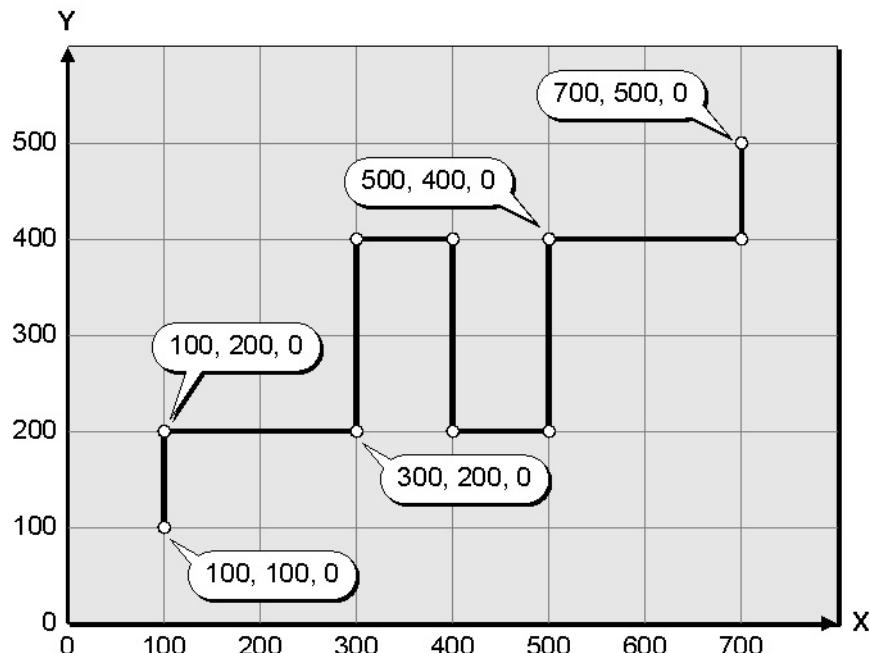

Figure 12-12. A geometry formed from a series of straight line segments.
Every item in a points array is defined by three parameters. The first two parameters specify the X and Y coordinates of the point, while the third parameter defines the radius (R) in the case of circles or arc segments. First, let's consider a geometry formed from a series of straight line segments as illustrated in Figure 12-12.
Observe that the two geometries illustrated in Figures 12-12 and 12-13 contain exactly the same number of points and that these points are defined by identical X/Y values. The only difference is that two of the points now have R values (a positive R value results in a "clockwise path" for the arc or circle, while a negative R value results in an "anticlockwise path").